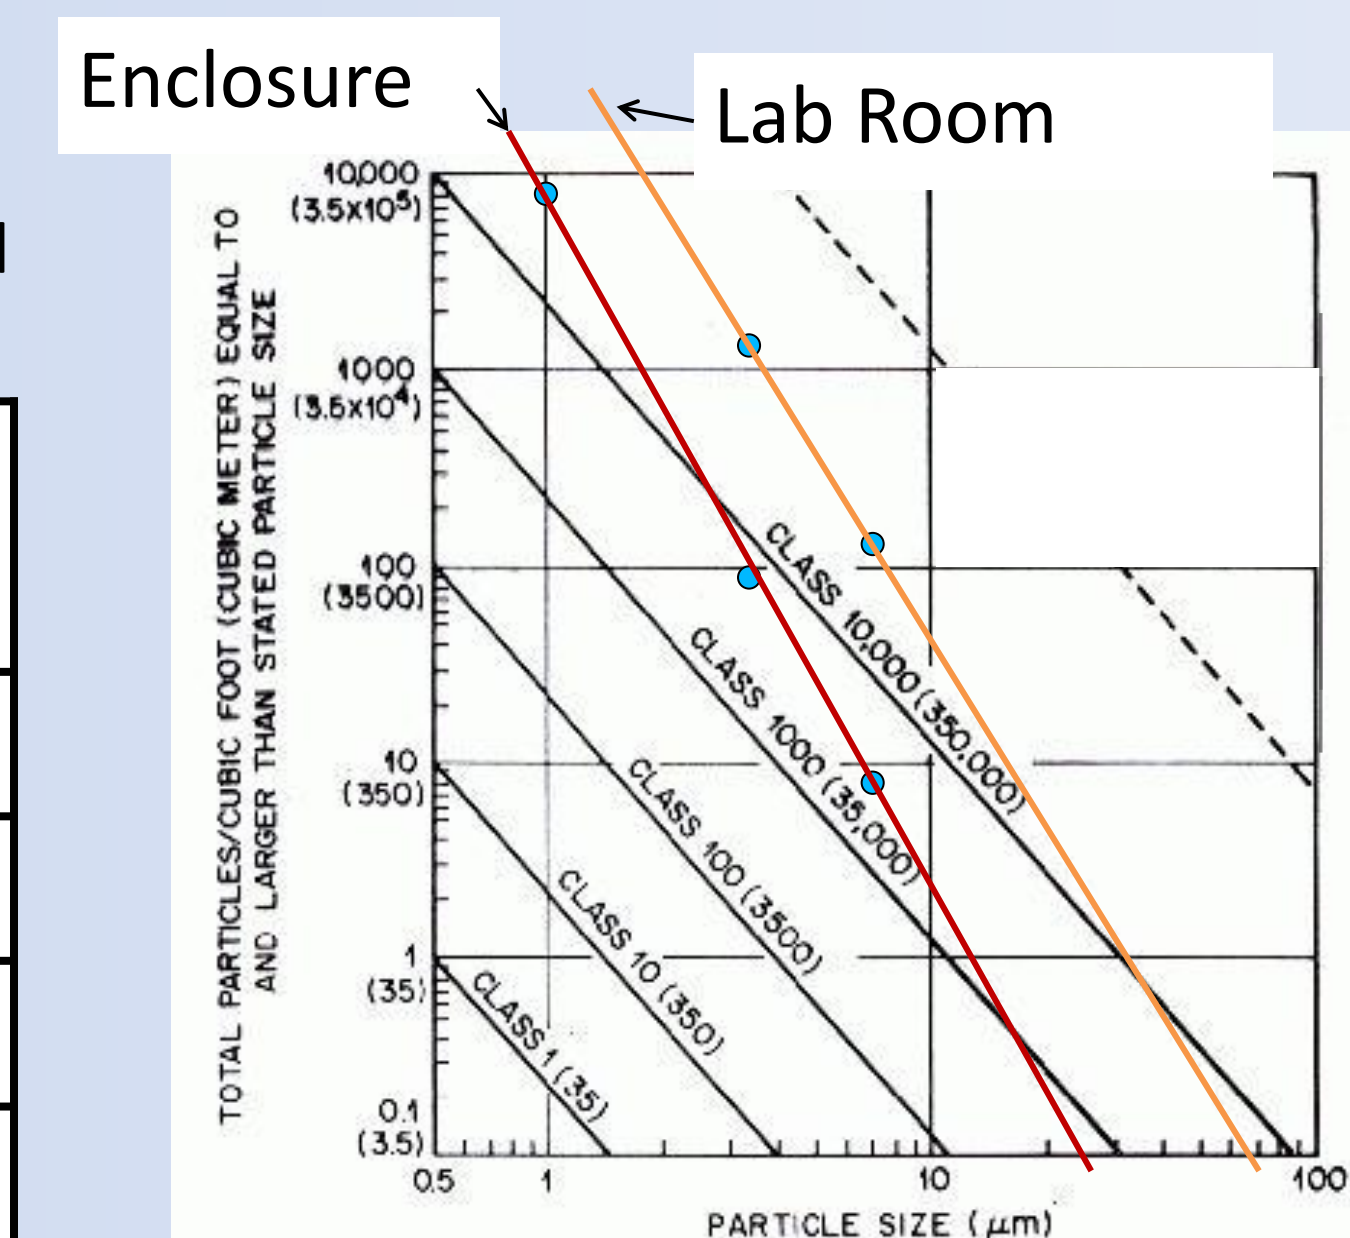

Figure 6 Graph of number of particles vs. particle size. Lab room and enclosure are roughly graphed.
- Figure 6 illustrates how "clean" the Lab and enclosure are.